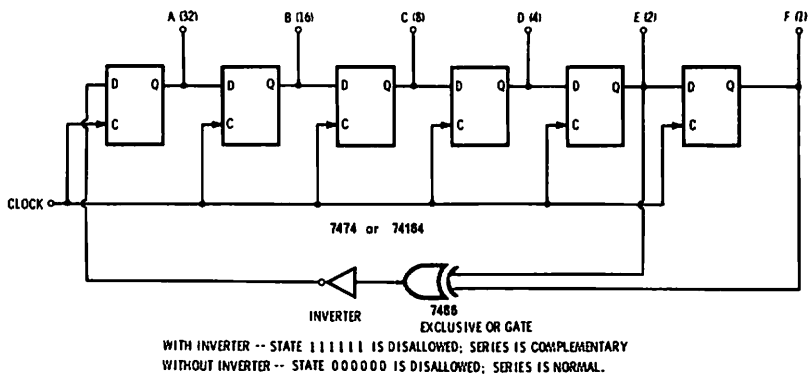

Fig. 7-15. A 63-state pseudo-random sequence generator.
Fig. 7-15 is a typical circuit. Here, we have taken a 6-stage shift register and EXCLUSIVE Ored the fifth and sixth bits, and then inverted them. If bits 5 and 6 are both a 0 or both a 1, then a 1 is sent to the
**Chart 7-2. Sequential States for the Circuit of Fig. 7-15.**
ing both techniques. With the complementary sequences, the 111 . . . . 11 condition is the stalemate. With normal sequences, the 0000 . . . . 0000 hangs up. By presetting to some combination of 1's and 0's, you can eliminate both possibilities. Note that Fig. 7-15 and Chart 7-2 are for a complementary sequence that is resettable to 000000.